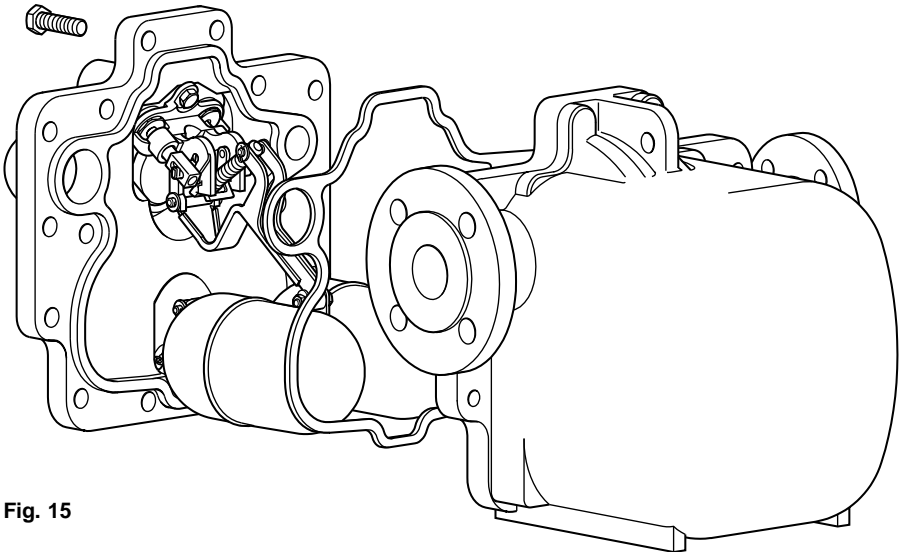

Fig. 15
1. Disconnect all connections to the cover. Remove the cover bolts using a 19 mm A/F socket, then carefully slide the cover assembly away from the body (250 mm minimum withdrawal distance will be needed). Lift the cover assembly to a bench or other convenient working surface and clamp securely, avoiding contact with the gasket face (See Fig. 15).